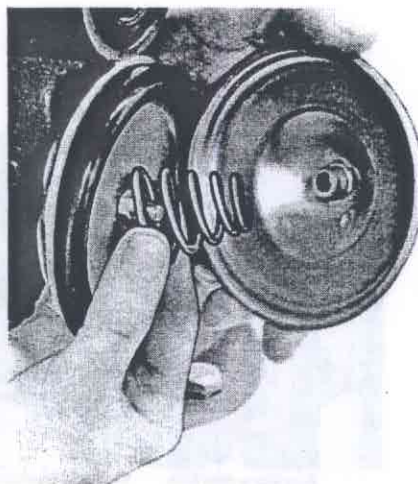

Fig. 43-36. Removign cover
2. Remove the bolts securing the cover. Remove the cover and the spring, see Fig. 43-36.